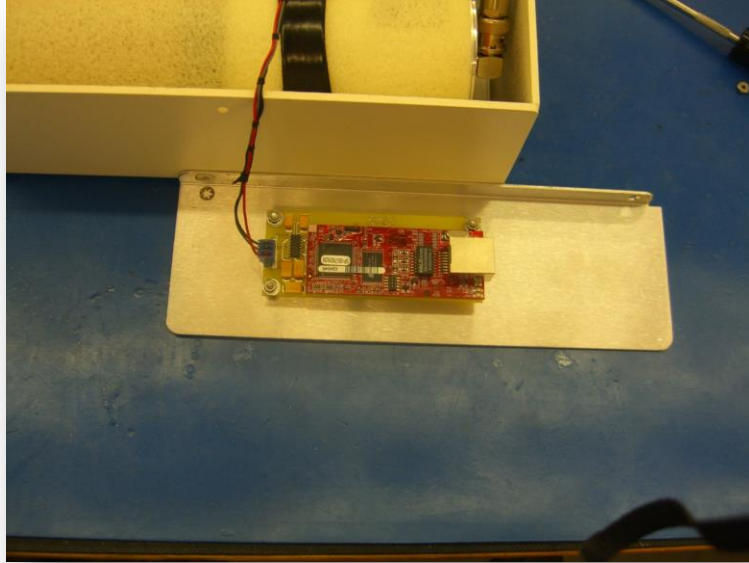

Figure 50 – Internal Rabbit Ethernet Board
3. Remove the two nuts from the corners of the bracket holding the Ethernet board. See Figure 50.